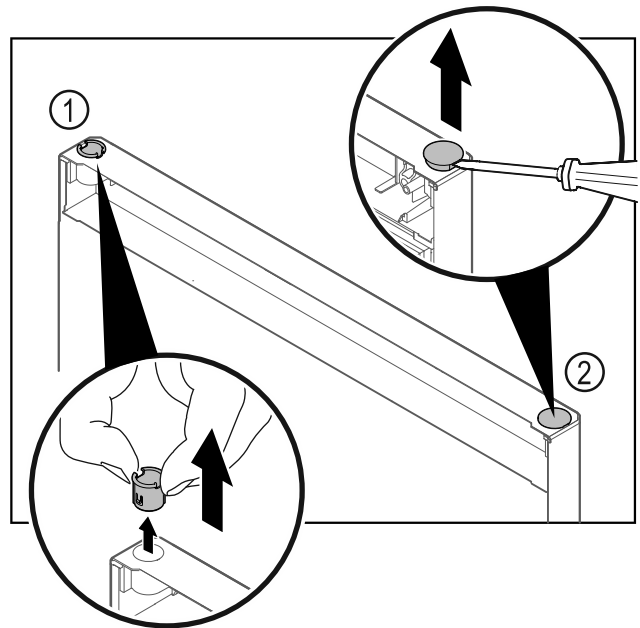

Fig. 34 Freezer compartment door
- Pull out the hinge bushing Fig. 34 (1) with your fingers.
- Carefully lift the cover plug Fig. 34 (2) with a slotted screwdriver and pull it out.